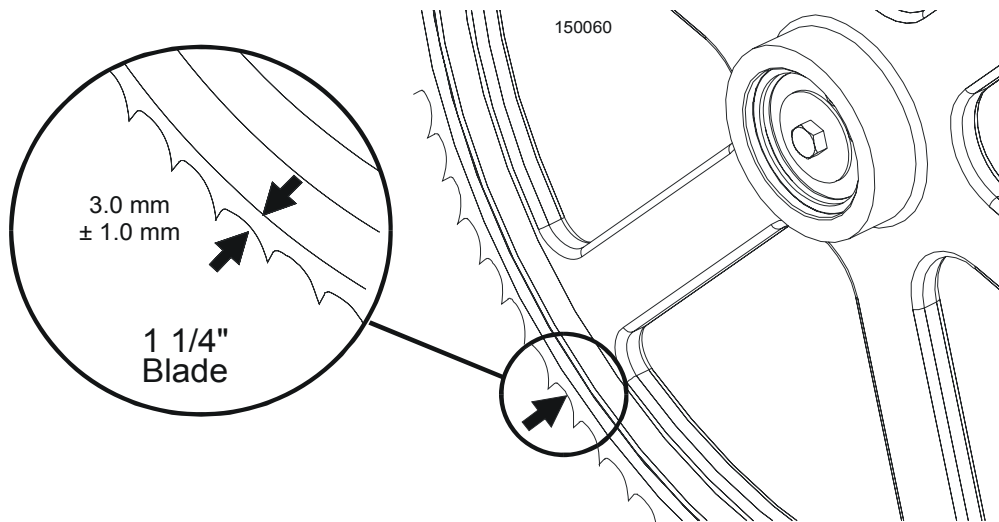

**FIG. 6-4**
**See Figure 6-4.** Use the vertical adjustment screws to adjust the idle-side blade wheel. To tilt the wheel up, loosen the bottom adjustment screw one quarter turn. Loosen the jam nut on the top adjustment screw and tighten the screw. Tighten the top and bottom jam nuts.